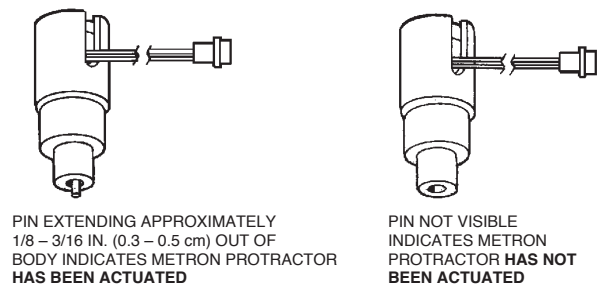

FIGURE 8-9
- Discard used METRON PROTRACTOR assembly. A discharged METRON PROTRACTOR will have the stainless steel pin extending approximately 1/8 – 3/16 in. out of the bottom. On a new METRON PROTRACTOR, the pin will not be visible. See Figure 8-9.